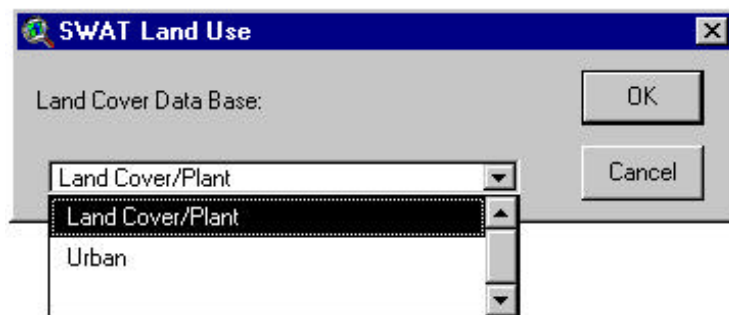

Figure 6.17
- b. A dialog box will pop up listing two database files from which a SWAT land type can be selected: Land Cover/Plant or Urban (Figure 6.17).